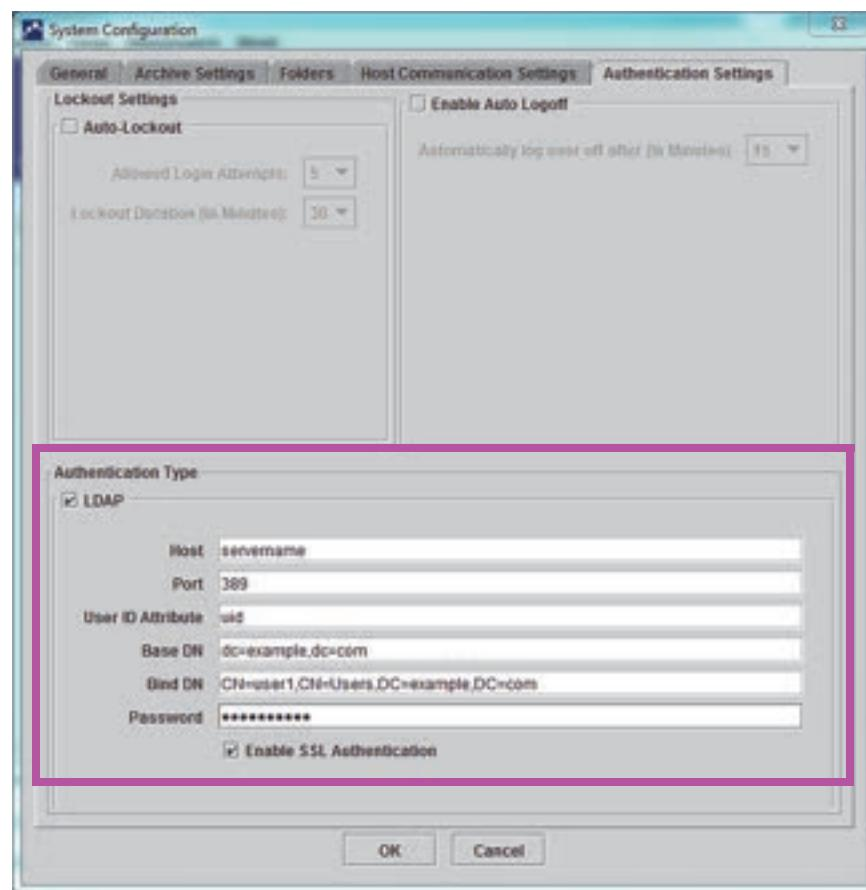

Figure 2-87. Authentication Settings Configured for LDAP
2. Click the **Authentication Settings** tab, the Authentication Settings information appears. See Figure 2-87.
- **Base DN**—Type in the base distinguished name (DN). A base DN is the point from where a server will search for users. An LDAP search for the user admin will be done by the server starting at the base DN (**dc=example,dc=com**).